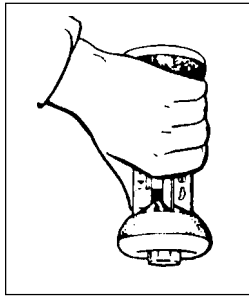

Figure 2
2. Invert FYRITE (Fig. 2). Hold at slight angle to drain fluid into top reservoir.
2. Invert FYRITE (Fig. 2) to absorb O2 drawn into FYRITE whenever Plunger Valve is depressed). Hold at slight angle to drain fluid into top reservoir.